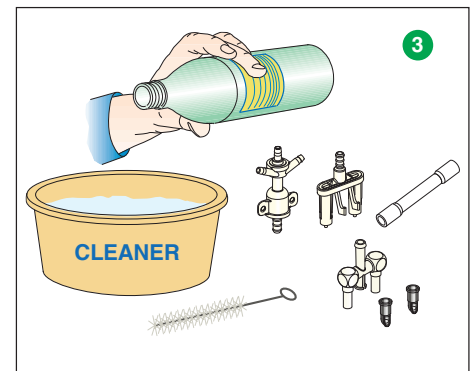

Fig. 4
- 3 Clean all cappuccino maker nozzle and flow divider nozzle parts in cleaning solution using a small brush. (Fig. 4)